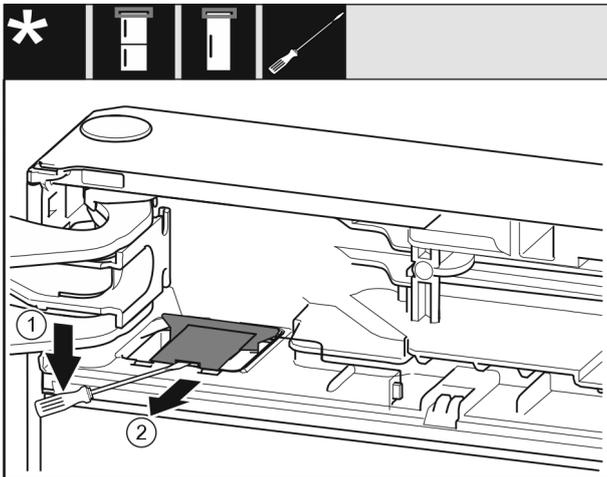

Fig. 12
- ▶ Use a flat-blade screwdriver to disengage the cover Fig. 12 (1).
- ▶ Remove the cover Fig. 12 (2).